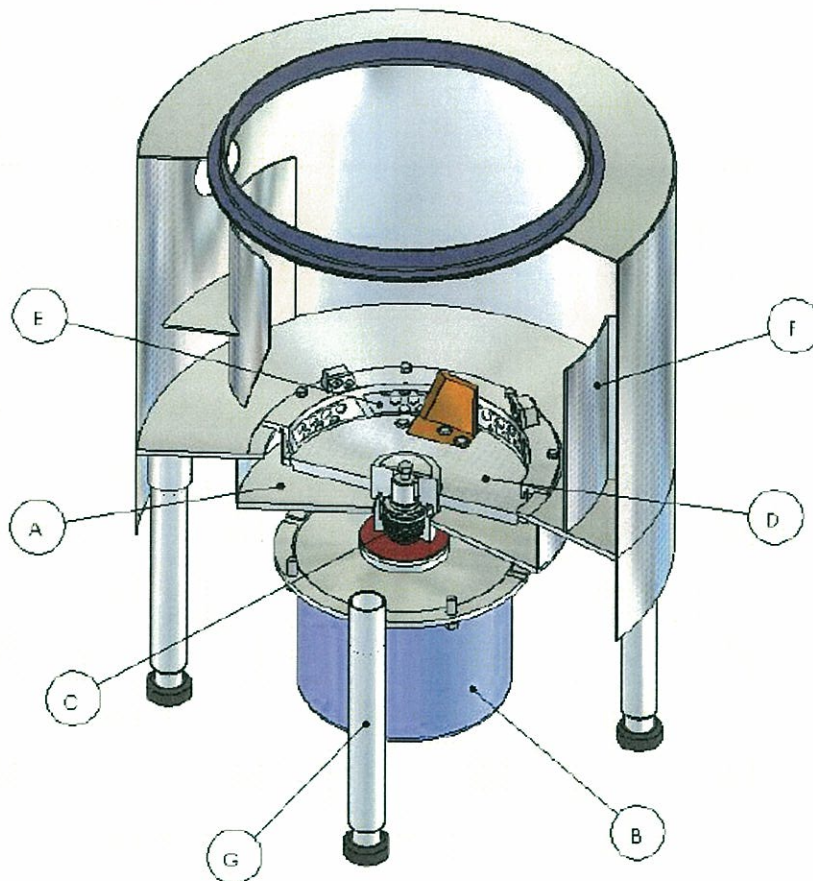

FIGURE 1. TYPICAL PULPER GENERAL ARRANGEMENT
The main body of the Pulper is composed of the shell weldment and the slurry chamber, Figure 1 (A). A drive motor (B) is mounted to the underside of the slurry chamber weldment. The drive shaft is fitted with a mechanical seal (C) that prevents slurry liquid from leaking into the drive motor. Above the mechanical seal an impeller assembly (D) is keyed to the drive shaft. The impeller is surrounded by a perforated stainless steel sizing ring (E). This ring controls the particle size of the solids entering the slurry chamber. A stainless steel junk box (F) is located inside the Pulper shell. The entire Pulper assembly is supported by stainless steel legs (G) with threaded adjustable feet.